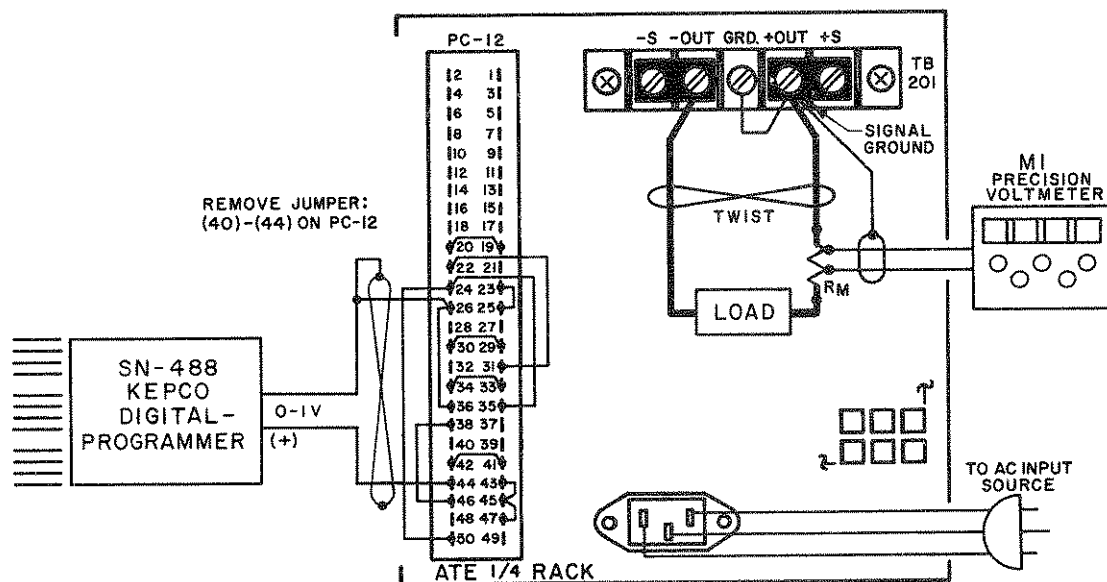

FIG. 3-11 CONNECTIONS FOR OUTPUT CURRENT CONTROL WITH A 0-1 VOLT CONTROL SIGNAL (KEPCO SN-488 DIGITAL PROGRAMMER).
3-58 GENERAL. The ATE output current, controlled by a front panel CURRENT CONTROL rheostat in the local control mode, can be remotely controlled by disconnecting the 15V bias from the non-inverting input of the EXT. CURRENT COMPARISON AMPL at the REAR PROGRAMMING CONNECTOR, and applying a 0 to 1 volt external control signal with reference to the ATE COMMON terminal. Since the non-inverting input of the EXT. CURRENT COMPARISON AMPL is used, only the small amplifier bias current must be supplied by the external control source. IN ALL CURRENT PROGRAMMING APPLICATIONS, THE FRONT PANEL CURRENT CONTROL SETTING OF THE ATE ACTS AS A "BACK-UP" CURRENT LIMIT AND MUST BE SET SLIGHTLY HIGHER THAN THE REQUIRED MAXIMUM OUTPUT CURRENT. An application, demonstrating this control method is described in PAR. 3-60 and illustrated in FIG. 3-11.
- 1) Connect the EXT. CONTROL VOLTAGE, (Model SN-488 Digital Programmer), the LOAD and the PRECISION VOLTMETER (M1) to the ATE as shown in FIG. 3-11.
Note: The output current value can be measured directly by means of a suitable ammeter in series with the load or, as indicated in FIG. 3-11, indirectly by means of the precision voltmeter (M1) across a current measuring resistor (R_M). R_M should be selected such that a convenient range on the precision voltmeter can be used, e.g., for a 10 ampere output current, use a 0.1 ohm resistor to produce a one volt full scale reading. If an electronic voltmeter is used, it should be battery-operated to avoid ground loops.